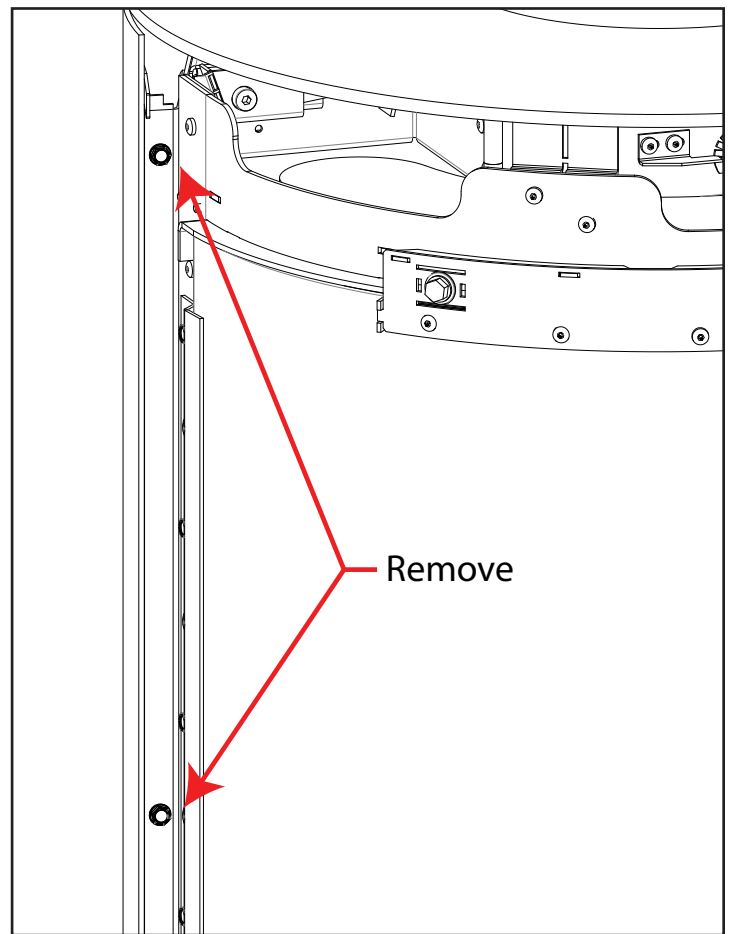
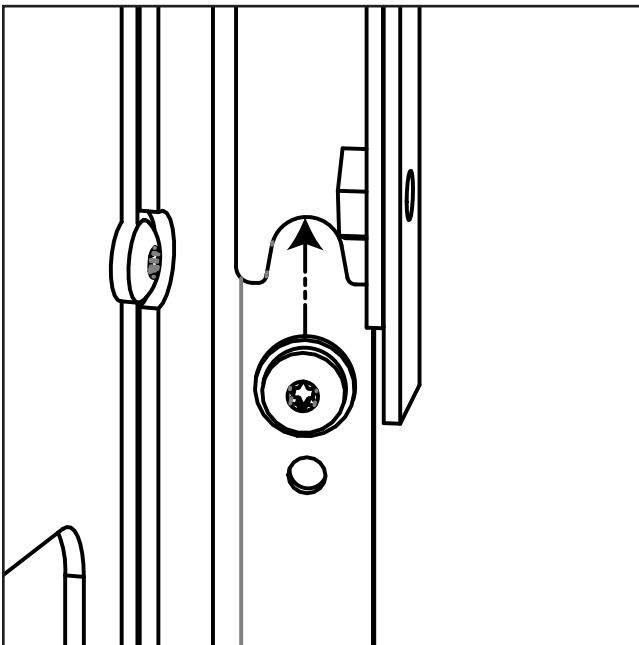

Figure 30: Rear Chassis Detachment
Figure 31: Rear Chassis Spacers
3. Position yourself in a way that allows you to support the chassis once detached. Remove the four mounting screws using a 5/16" socket (see Figure 30). There are two spacers at the bottom on the backside that support the rear chassis weight (see Figure 31). The chassis will pivot backwards once fully detached.
Remove the six (6) nuts retaining the rear skirt using a 3/32" (or 9mm) socket (see Figure 30).
Remove the four (4) nuts retaining the fascia band using a 3/32" (or 9mm) socket (see Figure 31).